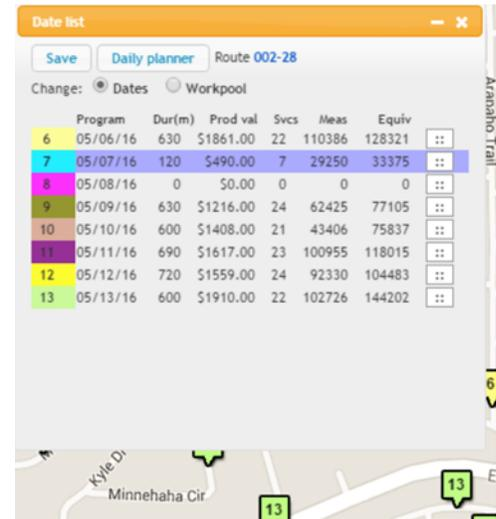

Figure 14
1. To change a service/services from one date to another, select the date you want to move the services to on the **“Date List”** (Fig. 14) located on the left of the screen.